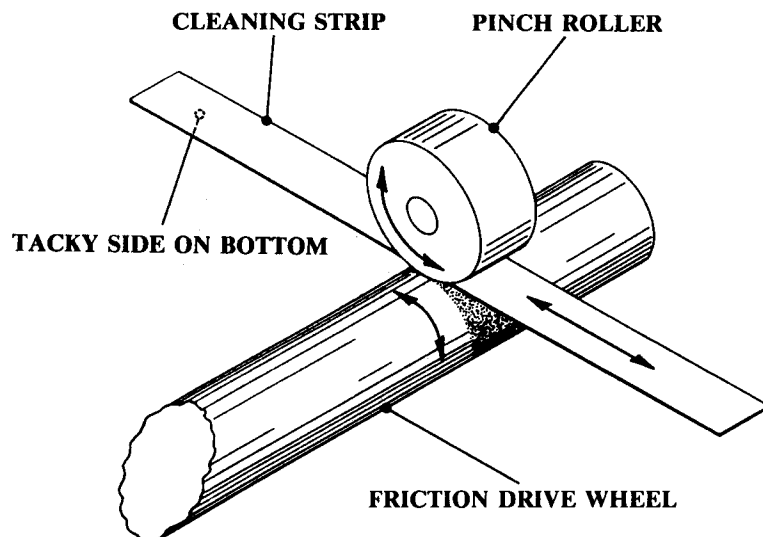

FIGURE 5-1. CLEANING FRICTION DRIVE WHEELS
6. Place the cleaning strip between the pinch roller and the plot drum, with the tacky side of the cleaning strip toward the friction drive wheel as shown in Figure 5-1.